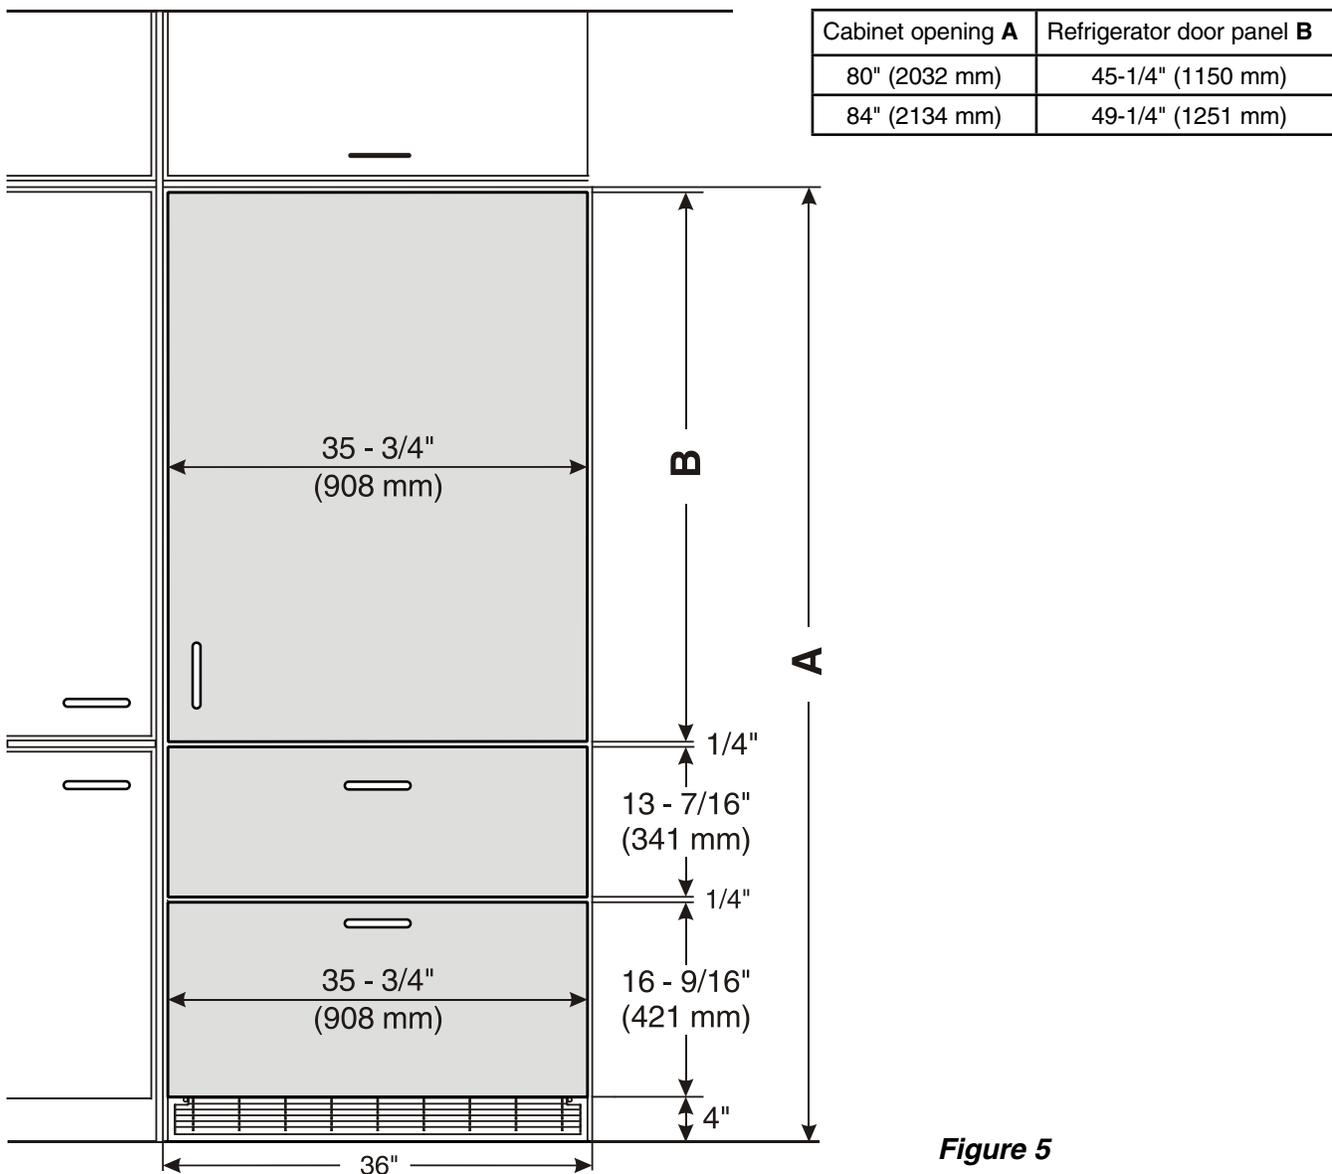

Figure 5
Panel Dimensions - Inset Installation Style - Figure 5
2. Drill a 3/8" diameter hole in any position as shown in **Figure 5** using a carbide drill bit.